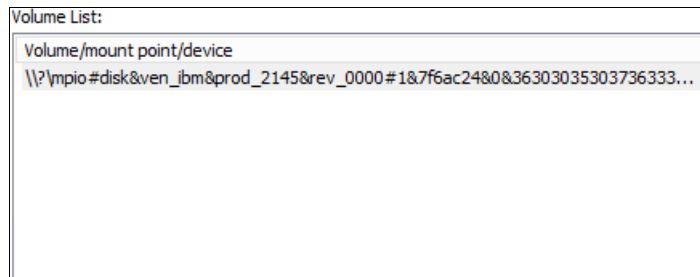

Figure 5-52 Configured iSCSI device
11. Click **Auto Configure** and the mapped volumes should display under Volume List, as shown in Figure 5-52. This ensures that, on restart, the volumes are available for use by dependent services and applications before these start.